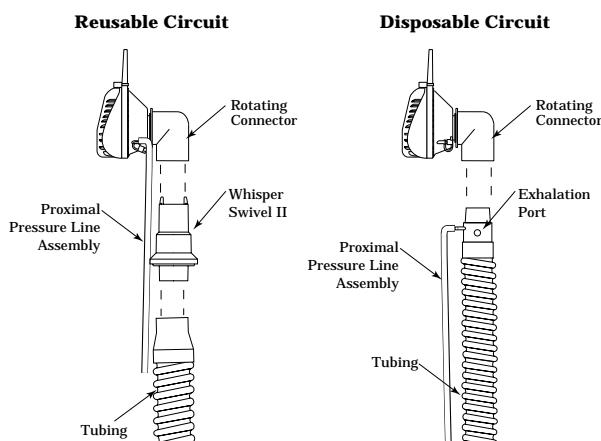

Figure 17
2. See Figure 17. Assemble the patient circuit as shown below.